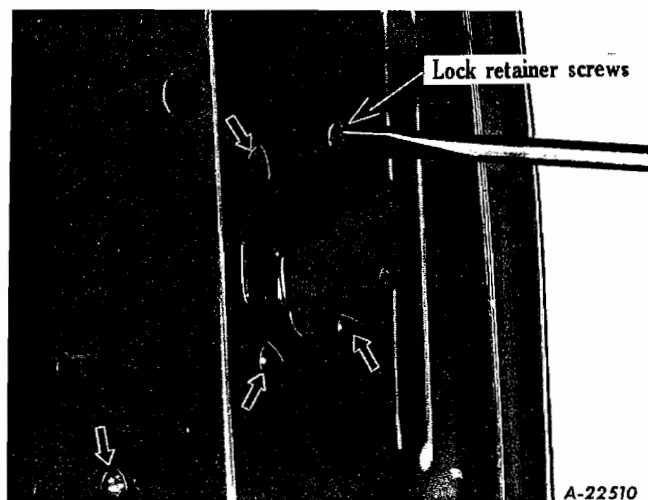

Fig. 41
9. Remove five door lock retaining screws (Fig. 41).